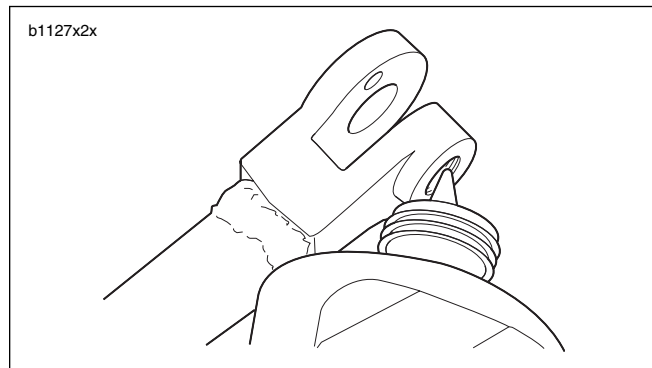

Figure 2-133. Threaded Area for Loctite Application
- b. See Figure 2-133. Apply LOCTITE 272 (red) to threaded area (clevis) of sidestand leg.